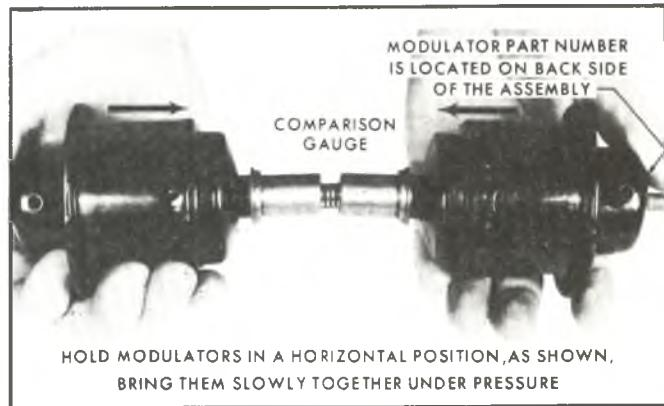

Fig. 35M—Checking Bellows Load
- Holding the modulators in a horizontal position, bring them together under pressure until either modulator sleeve end just touches the line in the center of the gauge. The gap between the opposite modulator sleeve end and the gauge line should then be  $1/16$ " or less. If the distance is greater than this amount, the modulator in question should be replaced. (Figs. 35M, 36M, and 37M).